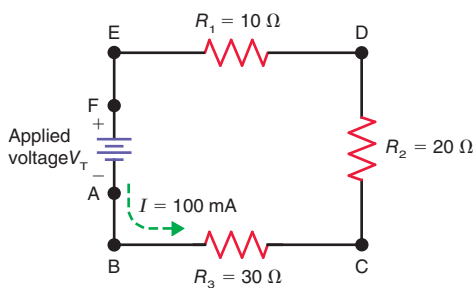

Figure 5-19
5.1 In Fig. 5-19, how much is the current, I , at each of the points A through F?
5.2 If R_1 and R_3 are interchanged in Fig. 5-19, how much is the current, I , in the circuit?